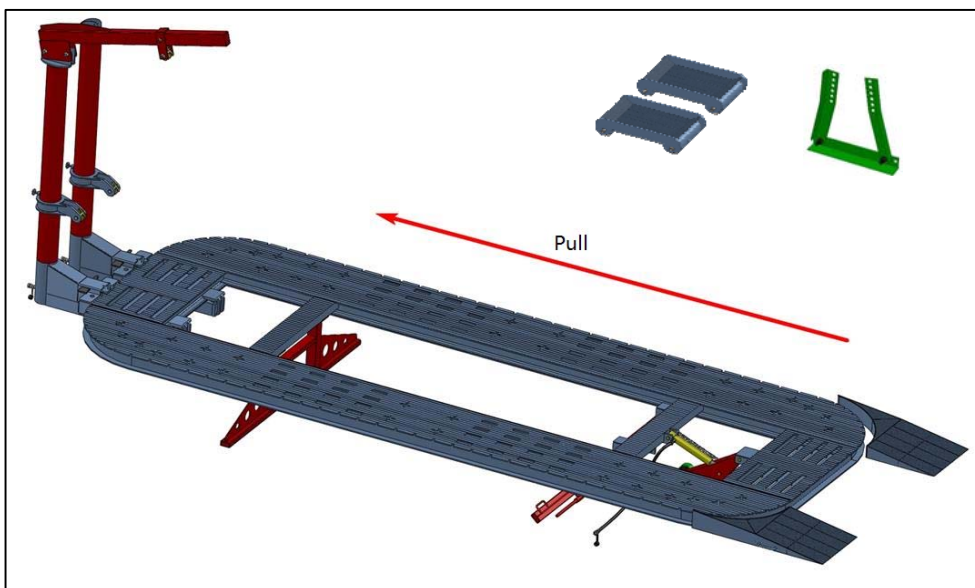

Figure 6.31
E. Put the Drive-on ramp aside the descending end of the platform. Now move the car onto the platform with wheel trolley and hand wrench. If the wheels are removed, the wheel bracket is necessary. See figure 6.31.